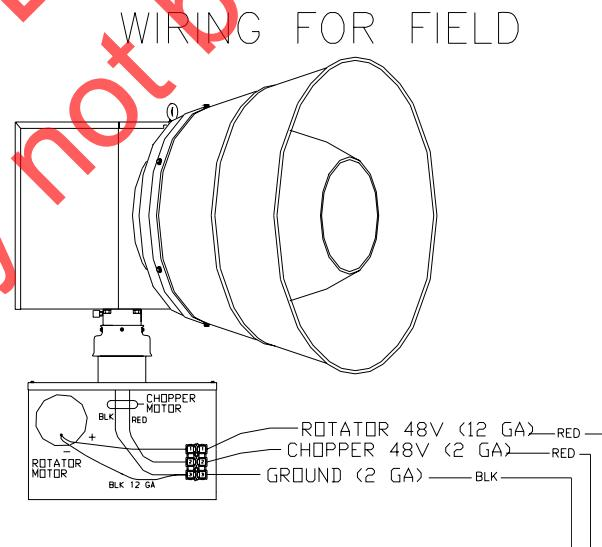

Figure 3-6. Wiring for Rotator Motor
Three wires are required to operate the 2001-130. One #2 AWG red wire from the 48VDC chopper control contactor output of the controller provides positive power to the chopper motor. One #12 AWG red wire from the rotator control contactor output of the controller provides positive power to the rotator motor. One #2 AWG black wire provides a common 48VDC negative ground between the ground plane of the control cabinet and siren motors. See *Figure 3-6* for the wire connections in the 2001-130. Consult the manual for the controller being utilized to connect the wires from the head.
3. Wire rotator motor and terminal block as shown in Figure 3-6.